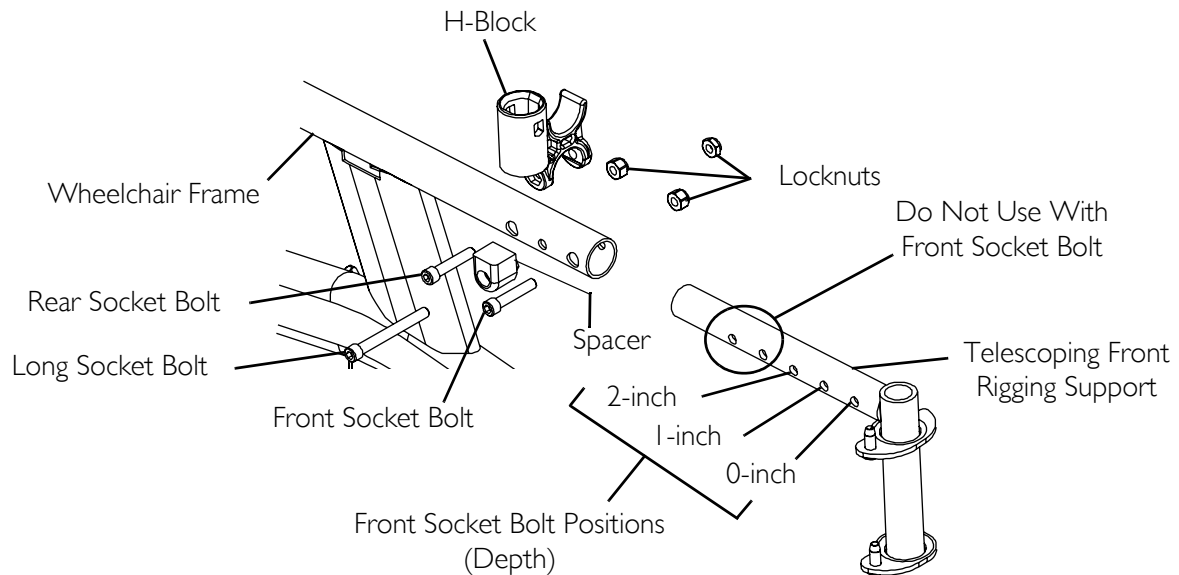

FIGURE 6.7 Adjusting/Replacing Telescoping Front Rigging Support
NOTE: For this procedure, refer to FIGURE 6.7.
5. Using the front and rear socket bolts and two (2) locknuts, secure the telescoping front rigging support to the wheelchair frame as shown in FIGURE 6.7.
6. Using the long socket bolt and locknut, secure the H-block and spacer to the wheelchair frame and the telescoping front rigging support as shown in FIGURE 6.7.